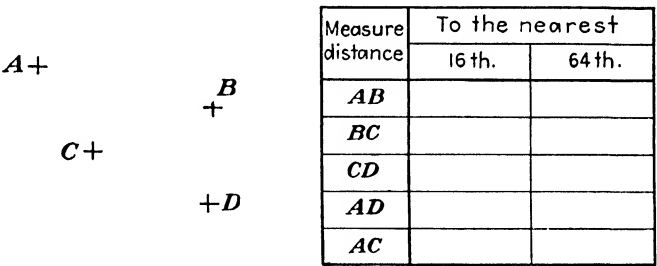

Fig. 8.
- 4. Measure the distance between the points in Fig. 8 to the indicated degree of accuracy.